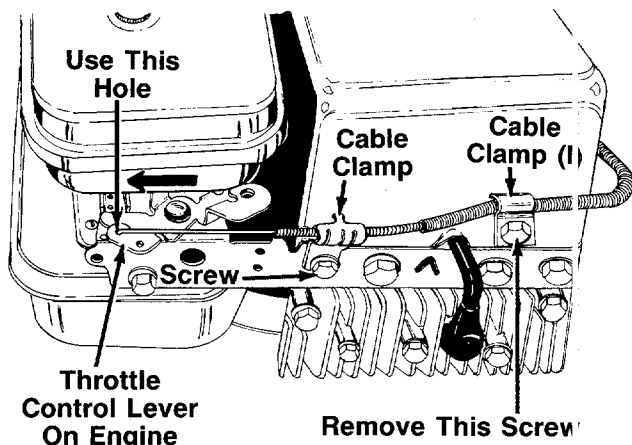

FIGURE 7.
13. Using a 7/16" wrench, remove the screw on the engine shown in figure 7. ←
15. Push the throttle control lever on the engine to the full open position (as far toward the **outside** of the unit as it will go) as shown in figure 7. Tighten the screw to secure the throttle control cable in this position.